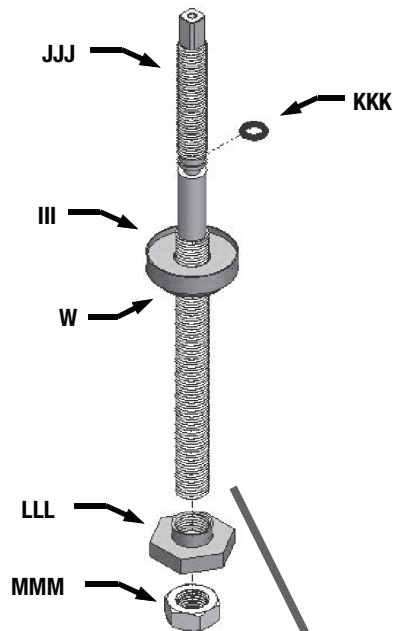

Figure 38
**Step 52:** Press fit the Thrust Bearing (W) into the Bearing Case (III).
**Step 53:** Slide a -108 O-Ring (KKK) onto the Adjusting Screw (JJJ) as shown in Figure 38. Slide the assembly from Step 52 onto the Adjusting Screw (JJJ).